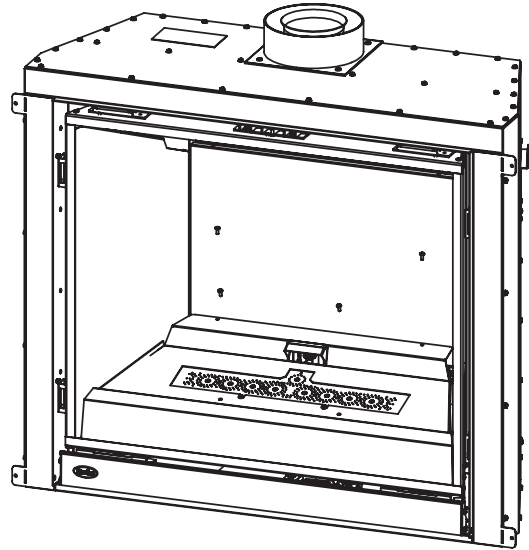

Figure 20. Removing Glass Tray
Step 2: Remove the glass media and the enameled glass tray as shown in Figure 20.